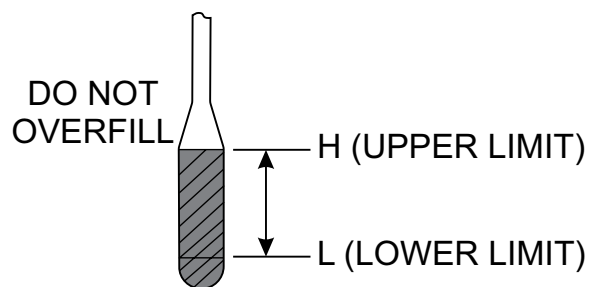

Figure 60. Dipstick Engine Oil Level
3. Determine if engine oil is low. Oil level should be between the upper and lower limit (Figure 60) on the dipstick.